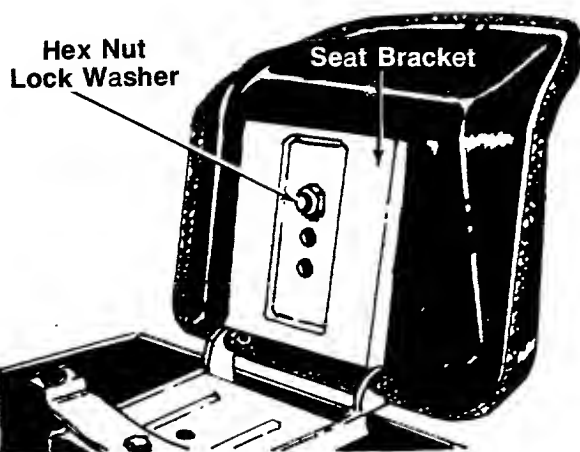

FIGURE 11.
1. The seat may be adjusted to three different positions. Select the desired seat position and secure the seat to the **seat bracket** with **hex nut and lock washer**. See figure 11.